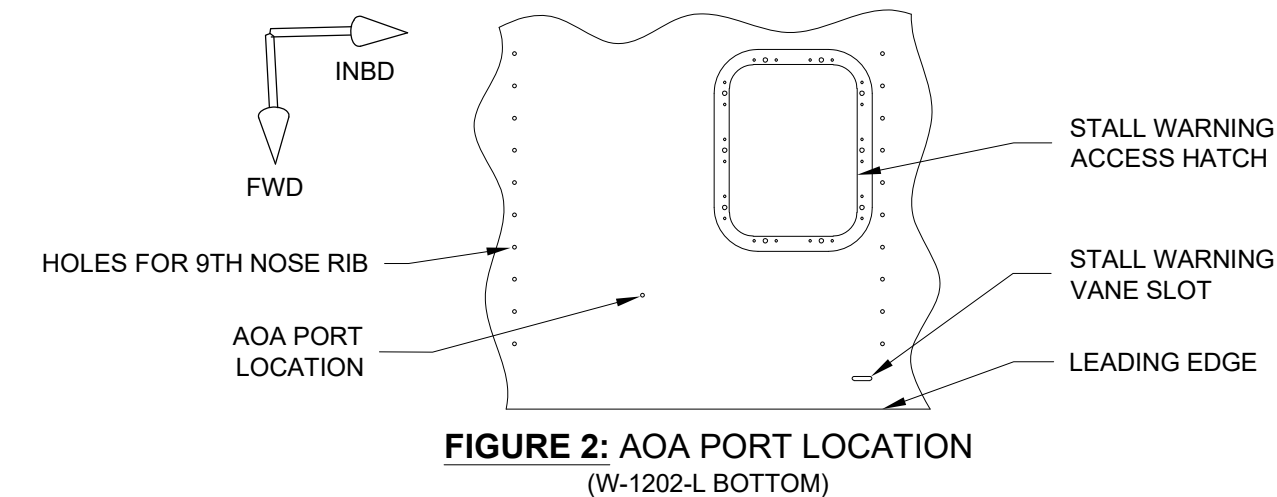

FIGURE 2: AOA PORT LOCATION (W-1202-L BOTTOM)
Step 2: Remove the clecos securing the W-1202-L, then position W-1202-L on a padded workbench with the bottom wing surface facing up and the aft edge facing away as shown in Figure 2.
Place a block of wood with a 3/16 [4.8 mm] hole behind the rivet so as to not distort the wing skin while driving out the mandrel, then drive out the mandrel with a hammer. See Figure 2 and 3.